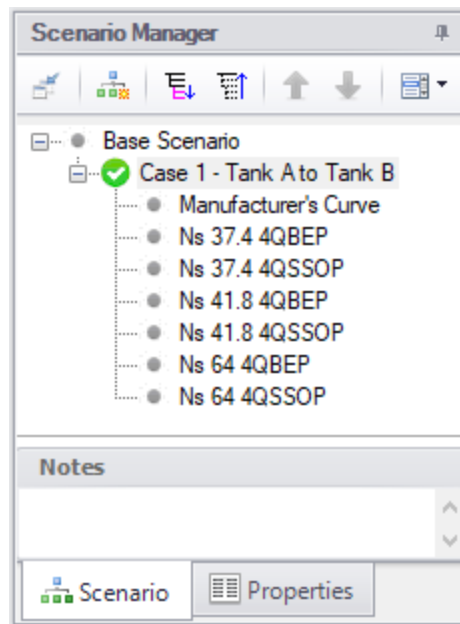

Figure 10: Scenario Manager with the scenarios created for each of the four quadrant data sets dimensionalized at the BEP and SSOP
5. Create cloned scenarios for the 37.4 m³/sec and 64 m³/sec four quadrant data sets, changing the four quadrant data set and dimensional reference points as needed. When finished the Scenario Manager should appear similar to Figure 10.